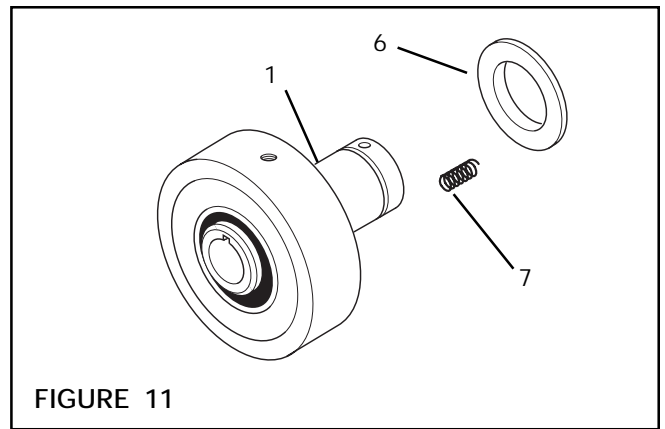

FIGURE 11
6. Install new Compression Springs (Item 7) into Drive Ring spring holes (See Figure 11).
8. Apply Loctite® 680 to I.D. of Backing Plate (Item 6) (See Figure 11).
9. Making sure that 1/32" lip is facing away from the Compression Springs (Item 7), slide the Backing Plate (Item 6) onto the Hub (Item 1) (See Figure 11).